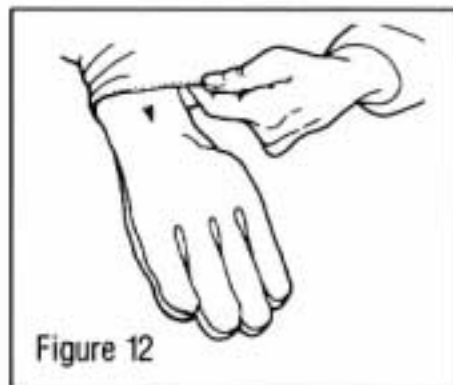

Figure 12
5. Pull back outer glove flap on each sleeve and don protective gloves following your employer's procedure. Pull glove flap down over cuffs of gloves (see Figure 12).